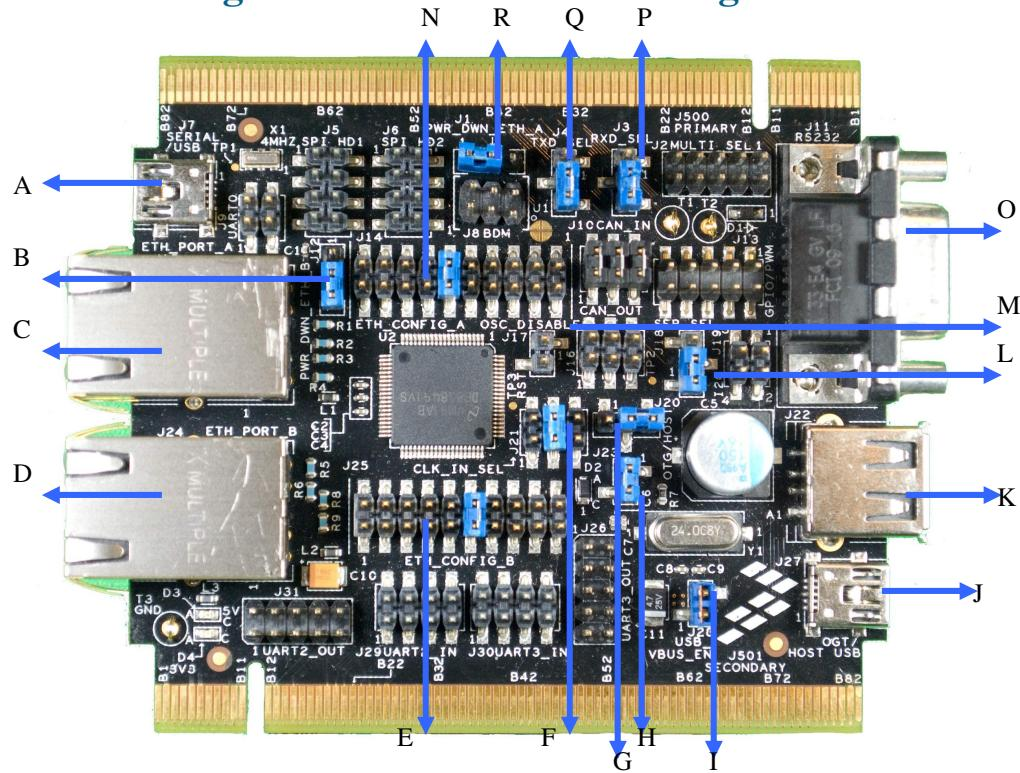

Figure 3 - TWR-SER2
- No jumper for J17 (See M of Figure 3 - TWR-SER2)
- Shunt 2-3 of J21 to provide CPU reference clock (See F of Figure 3 - TWR-SER2)
- Shunt 1-2 of J1 to enable the port (See R of Figure 3 - TWR-SER2)
- Shunt 11-12 of J14 for setting up as RMII mode (See N of Figure 3 - TWR-SER2)
- Shunt 1-2 of J12 to enable the port (See B of Figure 3 - TWR-SER2)
- Shunt 11-12 of J25 for setting up as RMII mode (See E of Figure 3 - TWR-SER2)
- Shunt 1-2 of J18 for RS232 (See L of Figure 3 - TWR-SER2)
- Shunt 2-3 of J3 for RS232 RXD (See P of Figure 3 - TWR-SER2)
- Shunt 2-3 of J4 for RS232 TXD (See Q of Figure 3 - TWR-SER2)
- Shunt 2-3 of J12 to disable the Ethernet Port B (See B of Figure 3 - TWR-SER2)
- Shunt 1-2 of J28 for USB_VBUS enable (See I of Figure 3 - TWR-SER2)
- Shunt 1-2 of J23 for USB_VBUS Over current (See H of Figure 3 - TWR-SER2)
- Shunt 2-3 of J20 for USB Host (See G of Figure 3 - TWR-SER2)